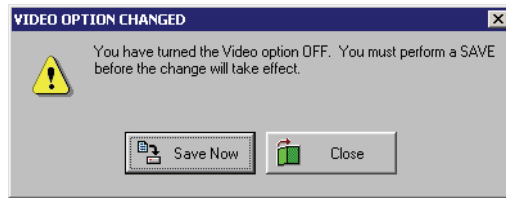

Figure 2-35: Video Option Changed - OFF
1. To disable Video, click in the **Video ON** check box. The check mark that was there disappears and the following window appears (see Figure 2-35).